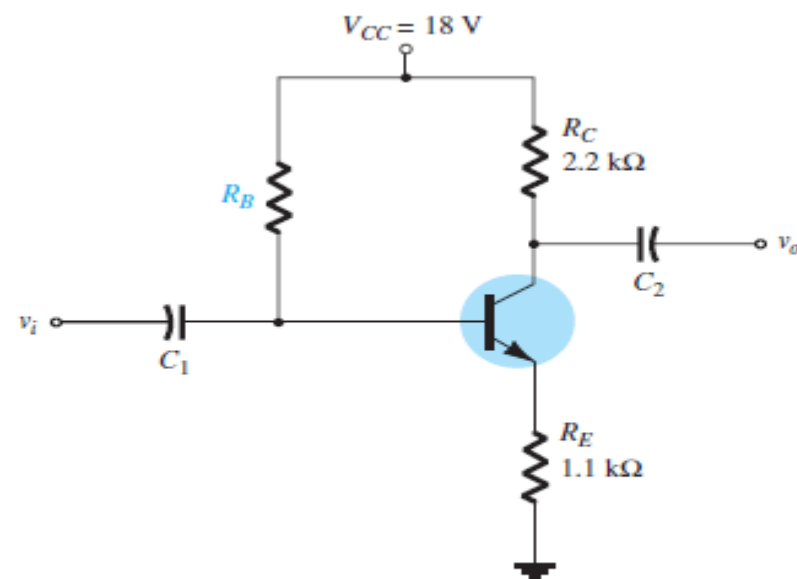
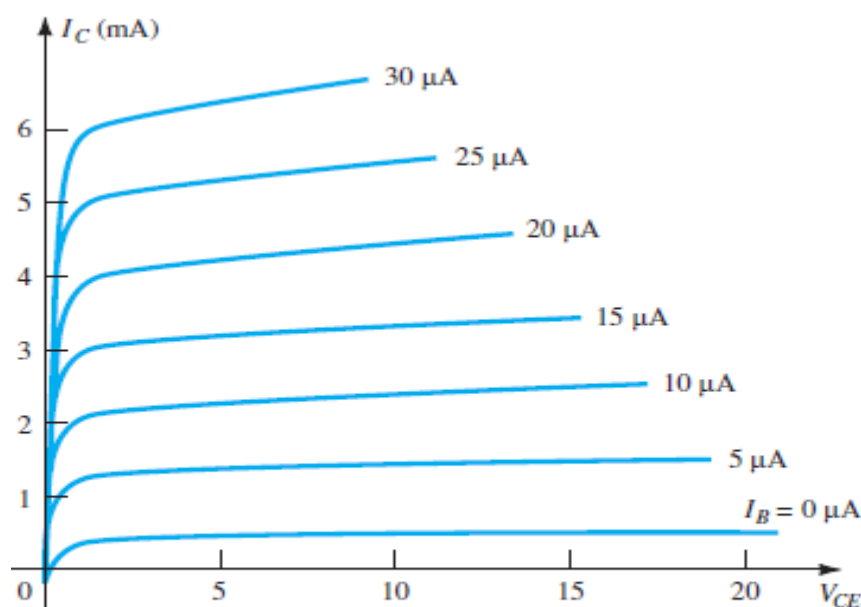

FIG. 4.26a
FIG. 4.26b
- Draw the load line for the network of Fig. 4.26a on the characteristics for the transistor appearing in Fig. 4.26b.